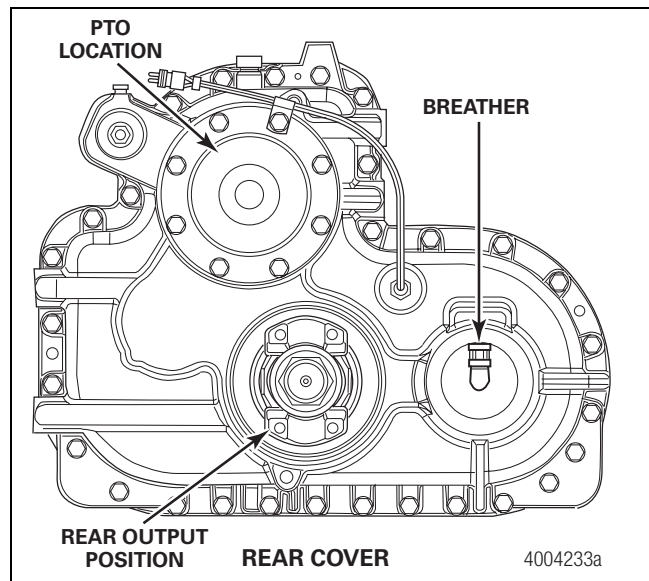

Figure 6.27
13. If necessary, install the breather into the rear cover. Figure 6.27.
3. Remove the breather assembly. Figure 6.27.